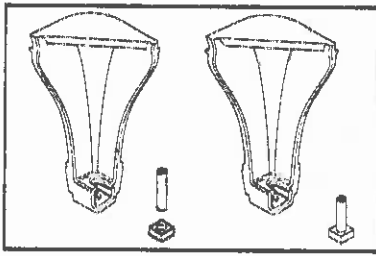

Figure 2 - Leveling Legs - Components
- Thread allen bolts through nuts until flush. See Figure 2.